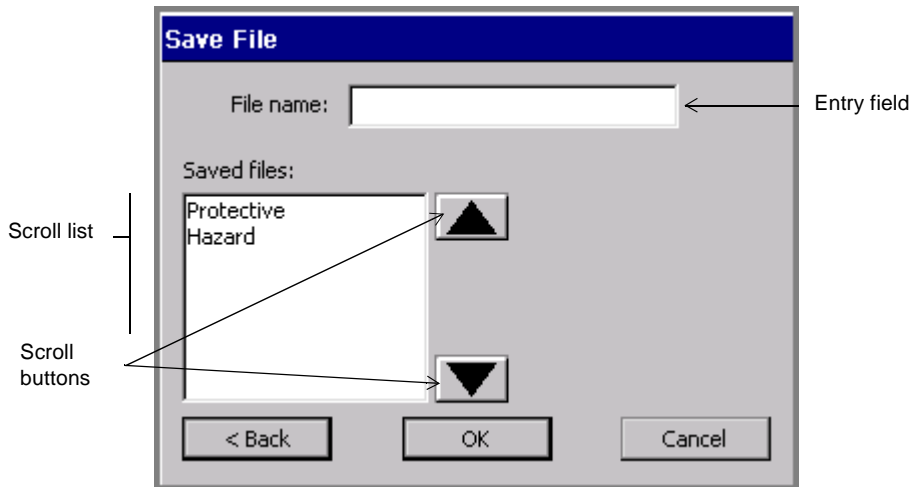
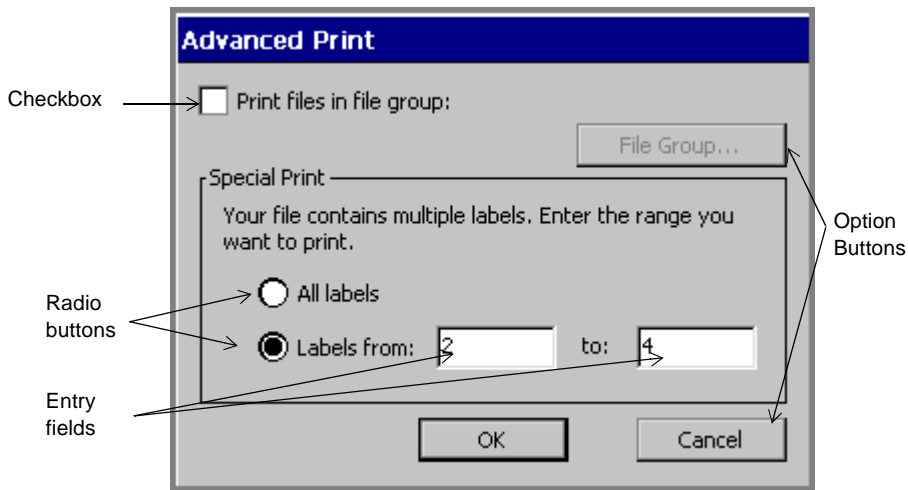
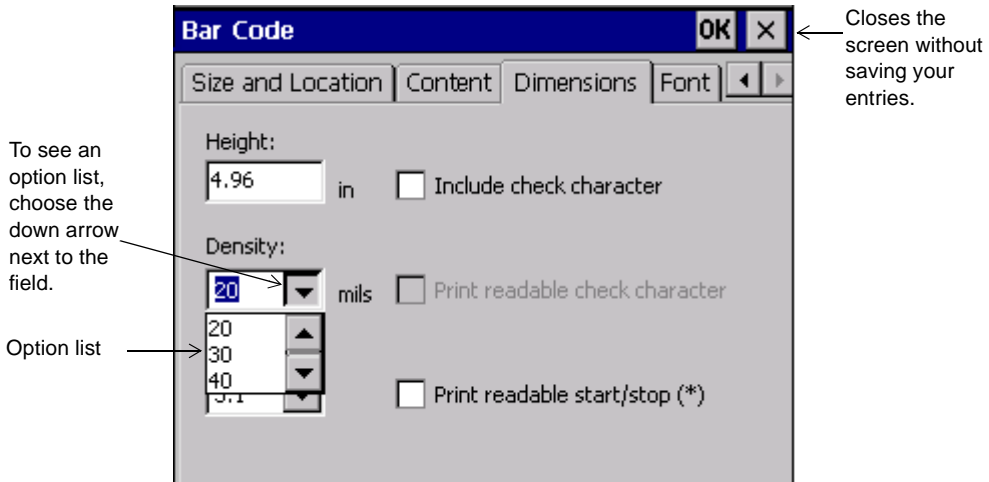

Figure 4-6. The Save File entry screen.
Figure 4-7. The Advanced print entry screen.
Figure 4-8. The Bar Code screen, Dimensions Tab.
Screens usually contain one or more of these information entry devices, as shown in Figure 4-6 on page 4-12 and Figure 4-7 on page 4-13.
An example of another type of entry field is the **Labels from** field in Figure 4-7 on page 4-13. In this field, you enter the beginning and end number for the range of labels you want to print. This type of entry field is activated only when you choose the attached radio
Touch an option button to implement the command or function listed on the button. For instance, in Figure 4-7, the **File Group** button is disabled, but when it is active it takes you to the **File Group** screen, where you choose a File Group to print. The **Cancel** button cancels any entries you made on the **Advanced Print** screen, and returns you to a previous screen.
Figure 4-6 on page 4-12 shows an example of a scroll list. Scroll lists contain lists of items for you to choose from. To make your choice, you can move up and down the list using the scroll buttons, which are also shown in Figure 4-6. When you find the item you want, touch or select it to choose it.
Checkboxes with checkmarks inside indicate that an option is enabled. Empty checkboxes indicate the option is not enabled. Figure 4-7 shows an example of a checkbox.
For example, in Figure 4-7, check the **Print Files in Group** option checkbox to indicate that you want to print a group of files all at once. Leaving it unchecked indicates that you accept the default status, which is printing a single file.
Radio buttons are empty circles when not in use, and circles with dots inside when activated. Figure 4-7 shows examples of radio buttons.
- The **OK** button may be at the top right of the entry screen, as shown in Figure 4-8, or it may be a full-sized button near the bottom of the screen, as shown in Figure 4-7.
- Press or choose the **X** button, as shown in Figure 4-8.
- Press or choose **Cancel**, as shown in Figure 4-7.